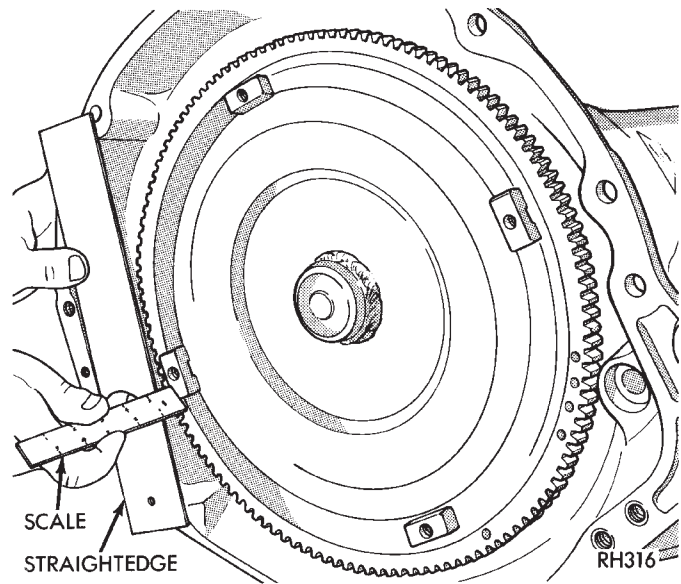

Fig. 18 Typical Method Of Checking Converter Seating
(1) Check torque converter hub and hub drive notches for sharp edges burrs, scratches, or nicks. Polish the hub and notches with 320/400 grit paper and crocus cloth if necessary. The hub must be smooth to avoid damaging pump seal at installation.
(2) Lubricate converter drive hub and oil pump seal lip with transmission fluid.
(3) Lubricate converter pilot hub with transmission fluid.
(4) Align converter and oil pump.
(5) Carefully insert converter in oil pump. Then rotate converter back and forth until fully seated in pump gears.
(6) Check converter seating with steel scale and straightedge (Fig. 18). Surface of converter lugs should be 1/2 in. to rear of straightedge when converter is fully seated.
(7) Temporarily secure converter with C-clamp.
(8) Position transmission on jack and secure it with safety chains.
(9) Check condition of converter driveplate. Replace the plate if cracked, distorted or damaged.